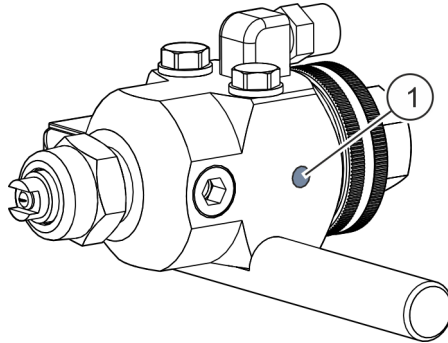

Fig. 6: Channel
2. ➤ Check the channel ( Fig. 6/1) for material leak.